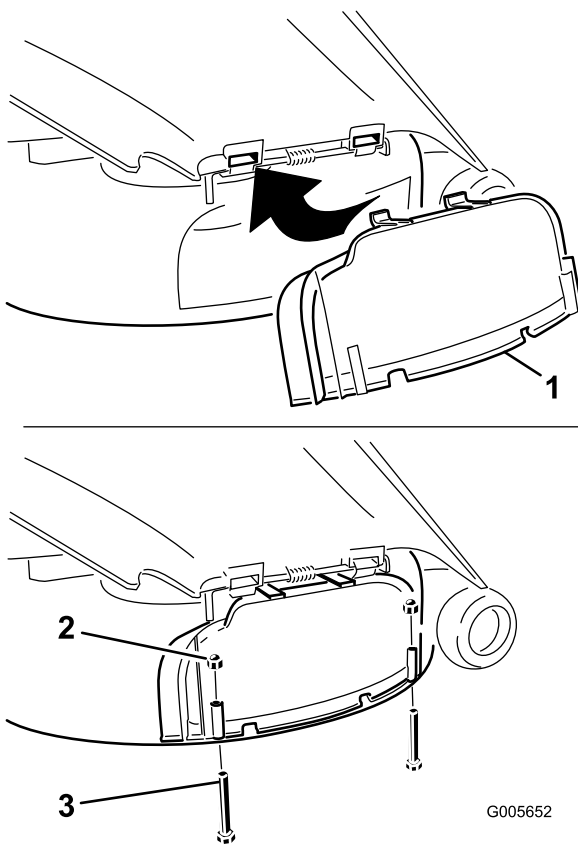

Figure 16
5. Rotate the discharge cover down over the opening, and onto the lower lip of the mower (Figure 16).
6. Secure the discharge cover to the lower lip of the mower with 2 bolts (1/4 x 2-1/2 inches) and 2 cap nuts (1/4 inch) as shown in Figure 16.